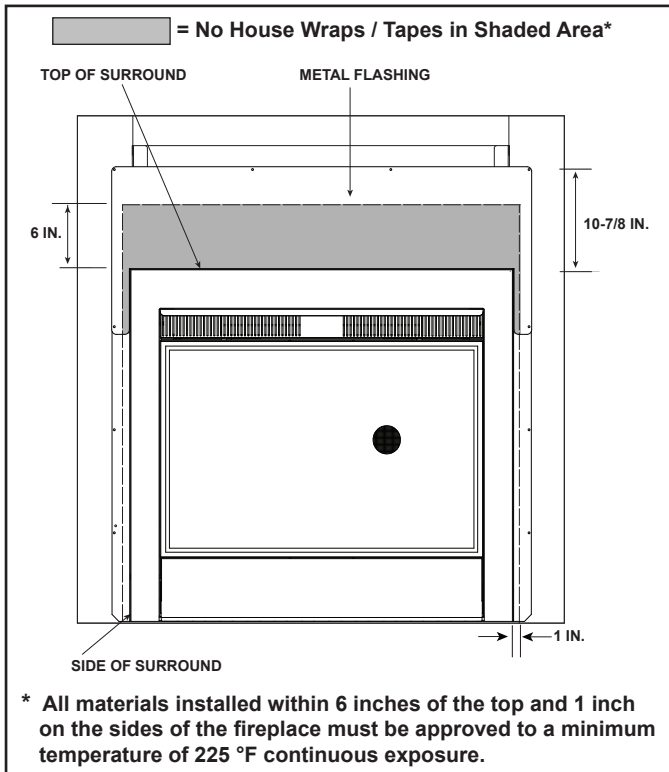

Figure 5.5. Exterior View without Non-combustible Sheathing Shown
For placement of combustible housewrap or building paper and non-combustible sheathing for the exterior wall see Figures 5.5 and 5.6.
- \* **NOTE:** All finishing materials on top of exterior sheathing must be non-combustible for a minimum of 10-7/8 inches above and 2-3/4 inches on both sides of the exterior face of the appliance. This non-combustible finishing material can be up to a maximum of 6 inches thick (6 inches maximum horizontal overhang) to allow for brick and stone alcoves (see Figure 5.5).